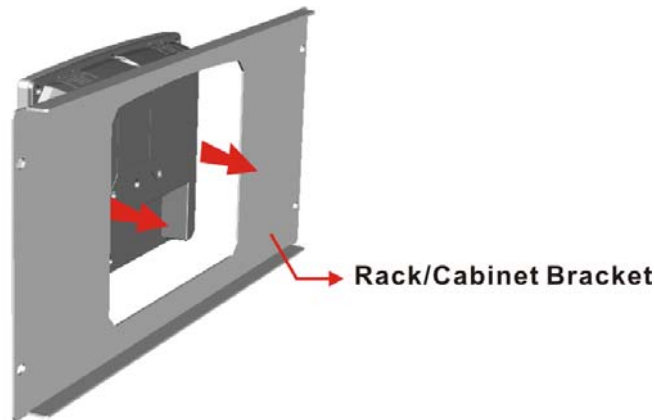

Figure 4-18: The Rack/Cabinet Bracket
Step 1: Slide the rear chassis of the AFL-15A-N270 series flat panel PC through the rack/cabinet bracket until the aluminum frame is flush against the front of the bracket (**Figure 4-18**).